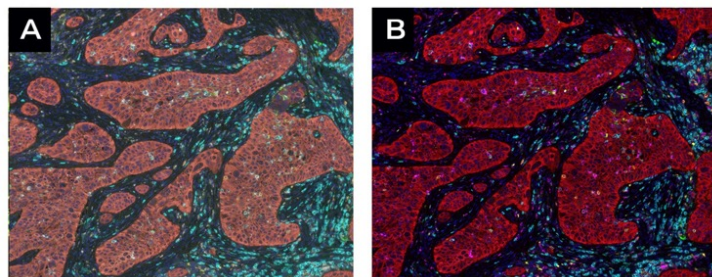

Figure 1.1. Human lung cancer tissue with autofluorescence (A) and the same tissue with reduced autofluorescence (B).
Many biological materials are naturally fluorescent or autofluorescent (AF). Many vitamins, some hormones, and a variety of biological enzymes and structural proteins exhibit autofluorescence. (See Figure 1.1.) These materials often fluoresce strongly enough to interfere with specific fluorescence labeling studies.